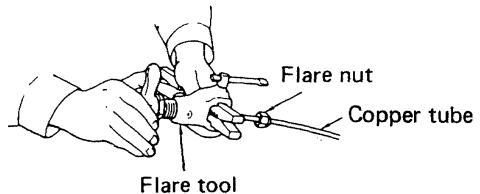

Fig. 26
- Make a flare at the end of copper tube with a flare tool*. Fig. 26 (*Use "RIGID" or equivalent.)